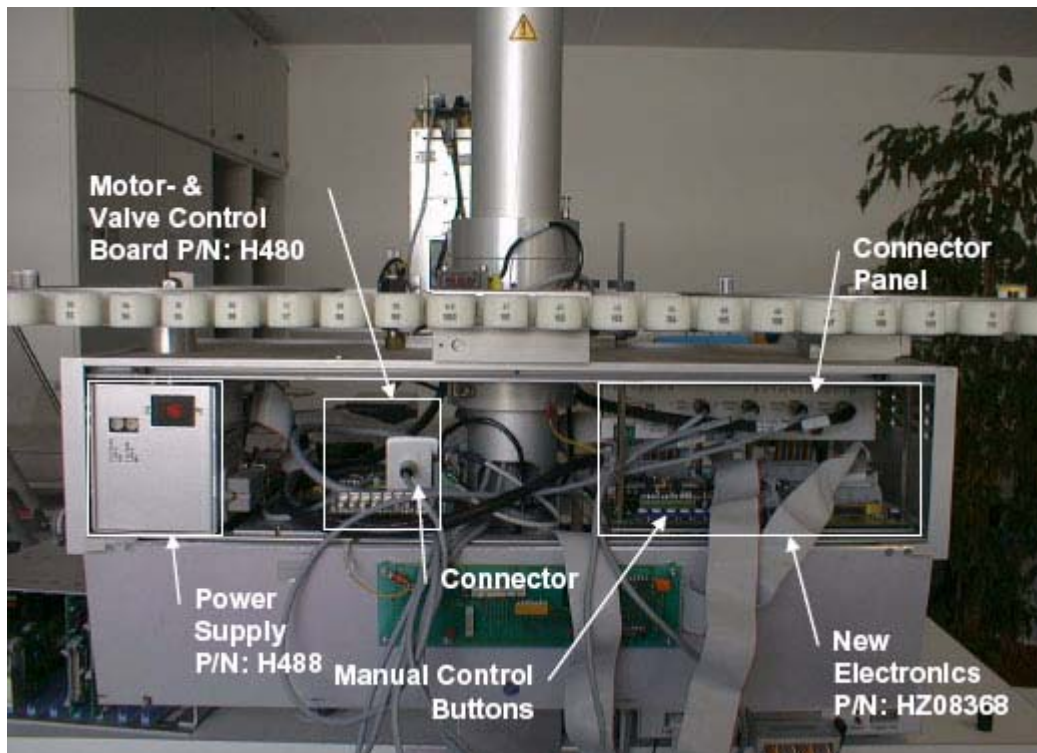

Figure 2.4. New Electronics in Old B-ACS Housing with Motor & Valve Control Board populated.
- Manual motion control when using new electronics in combination with the Motor & Valve Control Board. Here either the valves are on the Motor & Valve Control board, or the 15-pin D-subconnector to the valve block is connected to this board (see Figure 2.4).
This step is for systems which contain the new electronics, in combination with the Motor & Valve Control Board (see Figure 2.4), whereas either: